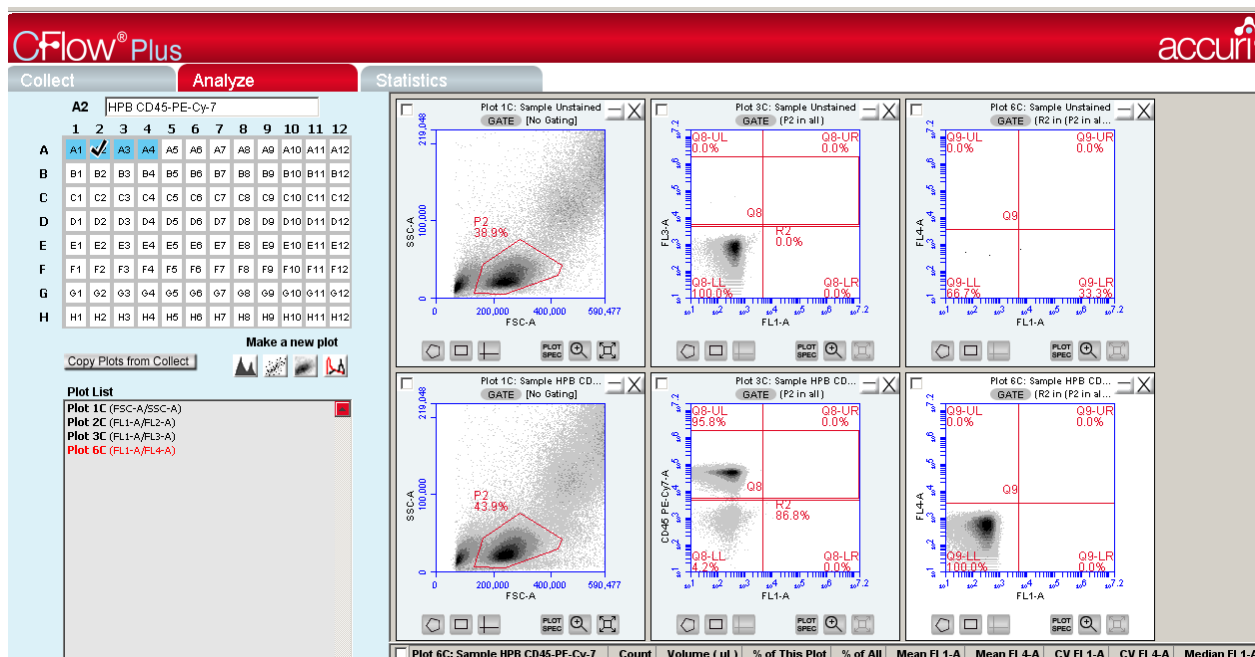

Figure 4-6 Analyze Tab: Row 2 selected to display data from Sample A2 in Plots 1C, 3C and 6C.
10. In the second row of plot corrals, open Plots 1C, 3C and 6C, this time choosing Sample A2 data to display in each plot (Figure 4-6). The gates set on Plots 3C and 6C in Steps 8 and 9 are applied automatically to the appropriate plots in Row 2.